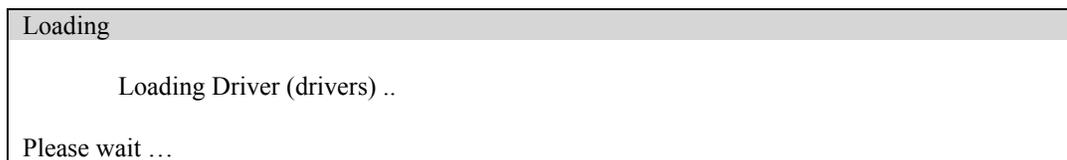

Figure 3-20 Loading Drivers Screen
9. The "Loading Drivers" screen (Figure 3-20) is displayed.